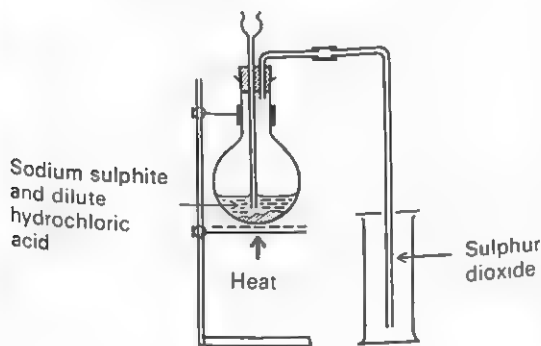

fig. 45 The preparation of sulphur dioxide
- c More dense than air (see method of collection, fig. 45).